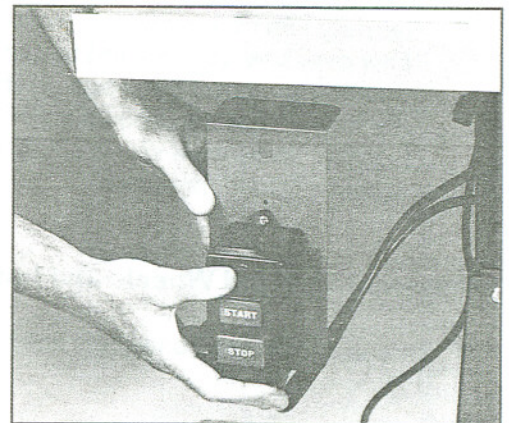

Fig. 8
5. Place switch bracket behind front lip of the left extension wing so that hole in switch bracket lines up with hole in guide rail and extension wing. (See Fig. 8) Insert 5/16" x 1-1/4" flat head screw through guide rail, extension table, and through switch bracket and hold in place with a 5/16" flat washer and 5/16" hex nut. Hand tighten only at this time.